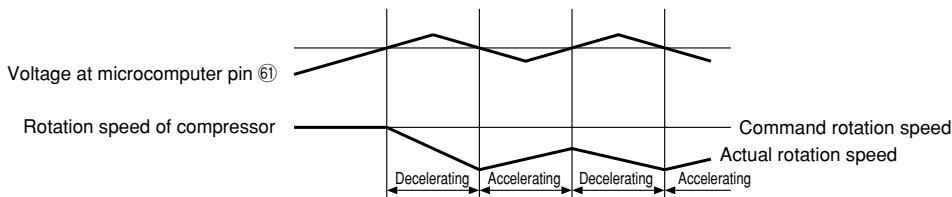

Fig. 6-3
Fig. 6-3 shows the rotation speed control. When the voltage at pin ⑥0 of the microcomputer exceeds the set value, the microcomputer decreases the rotation speed of the compressor and reduces the load.